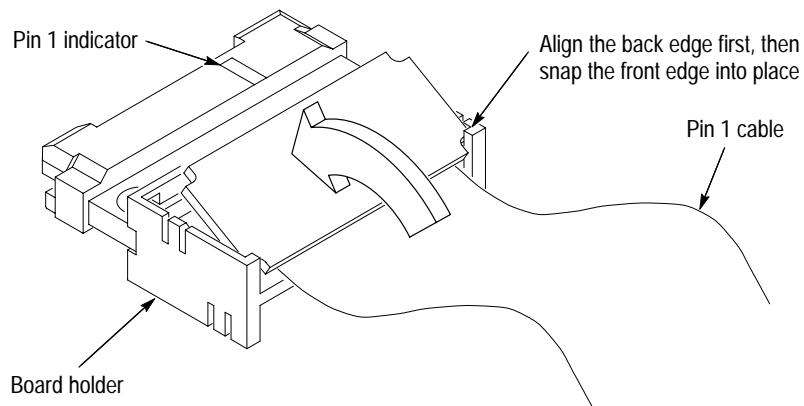

Figure 7: Positioning the circuit board in the board holder
3. Lay the Mictor board assembly on a flat surface with the pin 1 side of the connector facing up. See Figure 7 for the correct orientation.
5. Place the circuit board attached to the pin 1 cable into the back (cable side) of the board holder as shown in Figure 7.